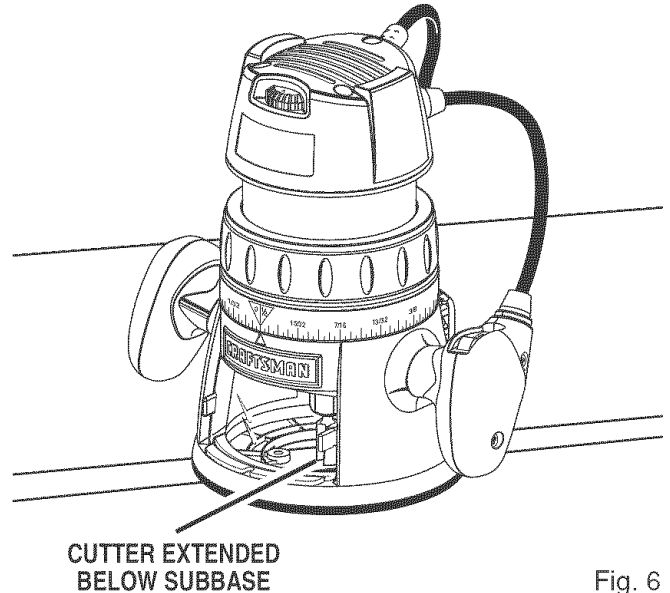

Fig. 6
- Position router so that the cutter can extend below the subbase for desired depth setting. See Figure 6.